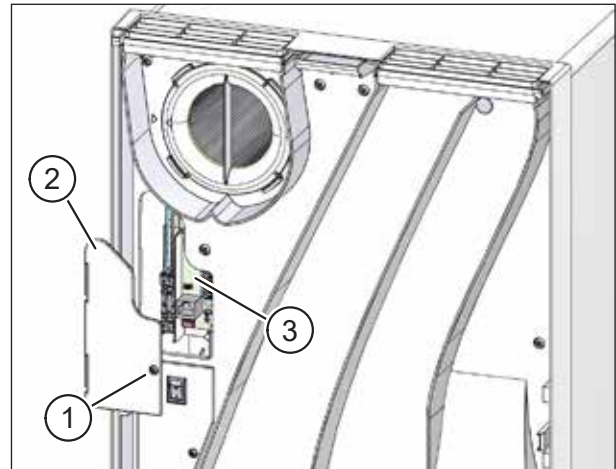

Fig. 23: Removing the electronics compartment cover plate
- ▶ Use the screwdriver to loosen the Torx screw (item 1 in Fig. 23) on the electronics compartment cover plate (item 2 in Fig. 23).
- ▶ Remove the electronics compartment cover plate to access the connection board (item 3 in Fig. 23).
- ▶ Insert the electronics compartment cover plate once more and fix it in position with the Torx screw (see Fig. 23 on page 40).